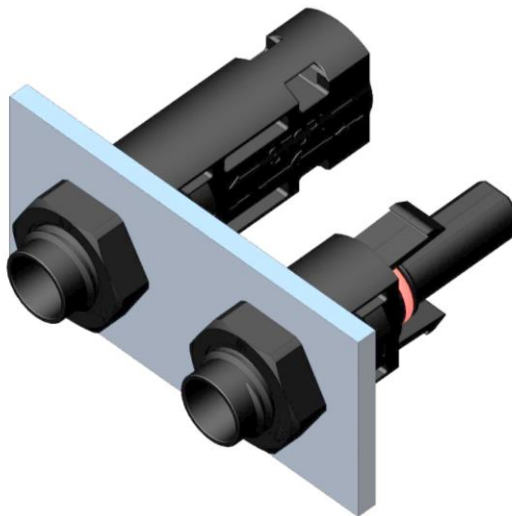

Figure 17
- ◇ 安装公/母面板连接器，用 1.4Nm 的扭矩锁紧螺母。（如图 17）
Position the male or female panel connector, tighten the nut by torque wrench with value of 1.4 Nm. (Fig.17)